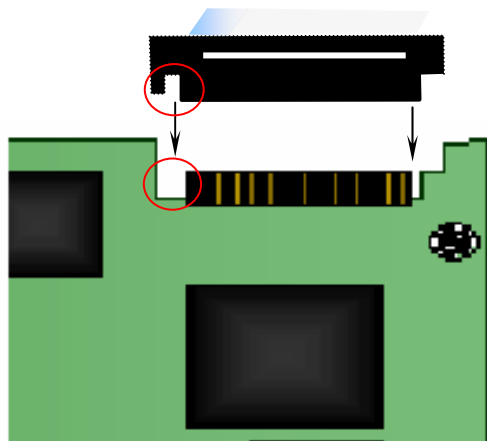

Figure2-8 Connection of H.100 Bus
- ① See Figure 2-8 for correct insertion. Do not twist or insert in the opposite direction.